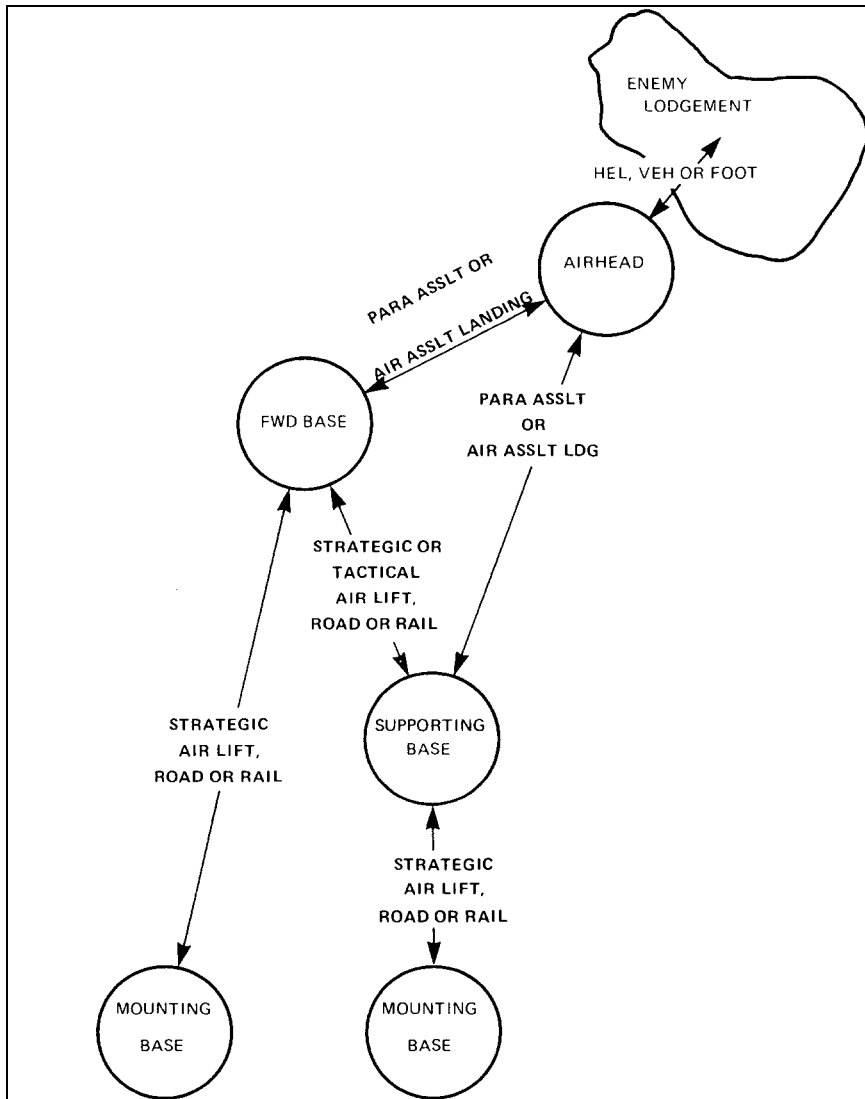

Figure 1-3 Diagrammatic Layout Base System for Mounting Operations
25. Operations will be mounted using a system of bases and airheads. Initial deployment will normally be by air although ships, road, and railways may be used, particularly in the subarctic. The final approach to the airhead or enemy lodgement may be by parachute, aircraft, ground vehicles or a combination thereof. Some possible methods of mounting an operation are shown in schematic form in Figure 1-3.